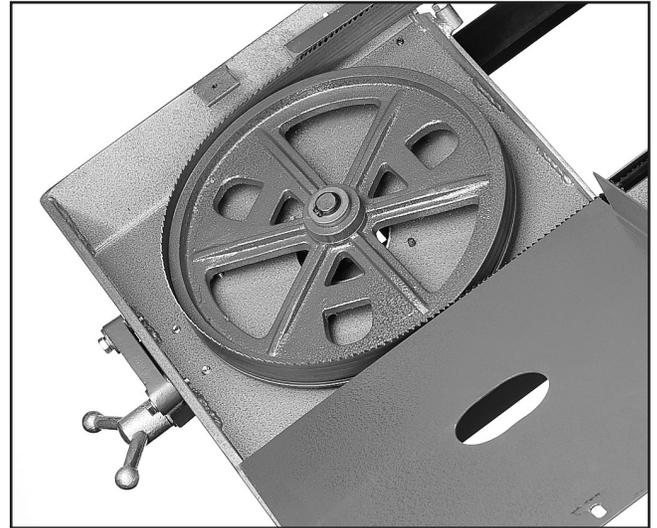

Figure 10. Outer wheel and cover.
1. Loosen tension on the blade by turning the tension knob. **See Figure 10.**